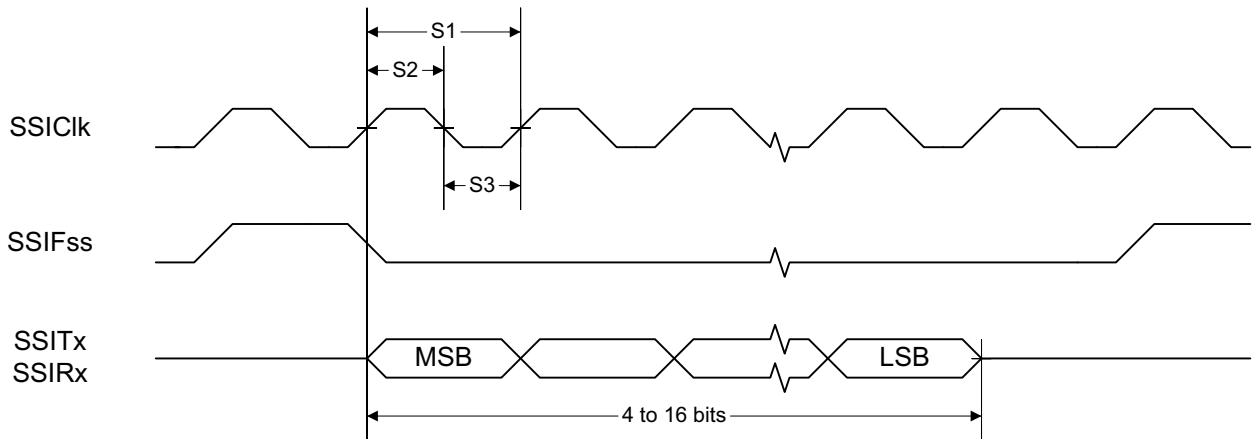
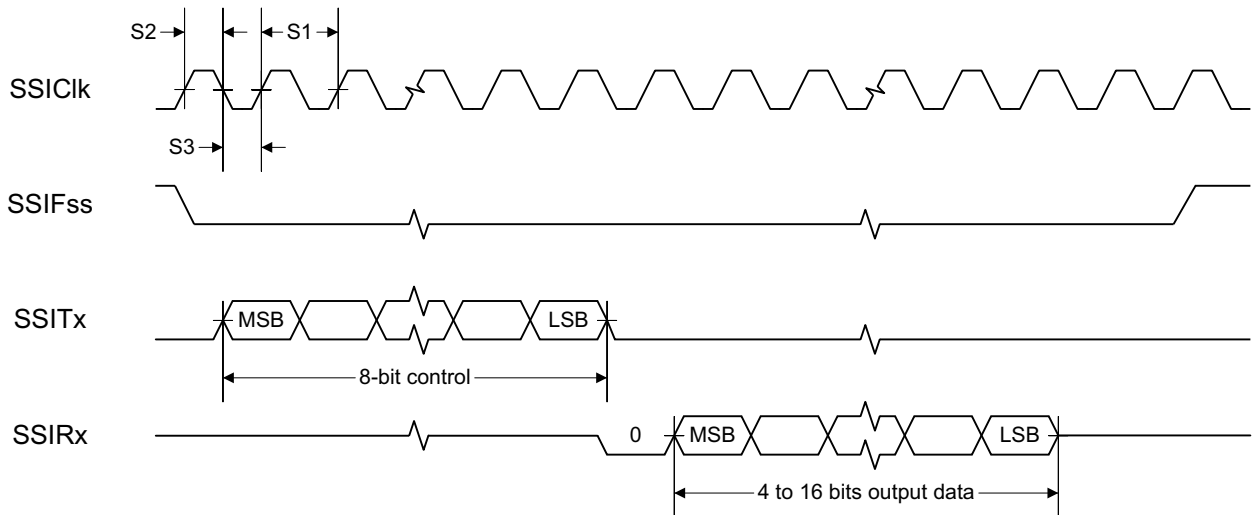
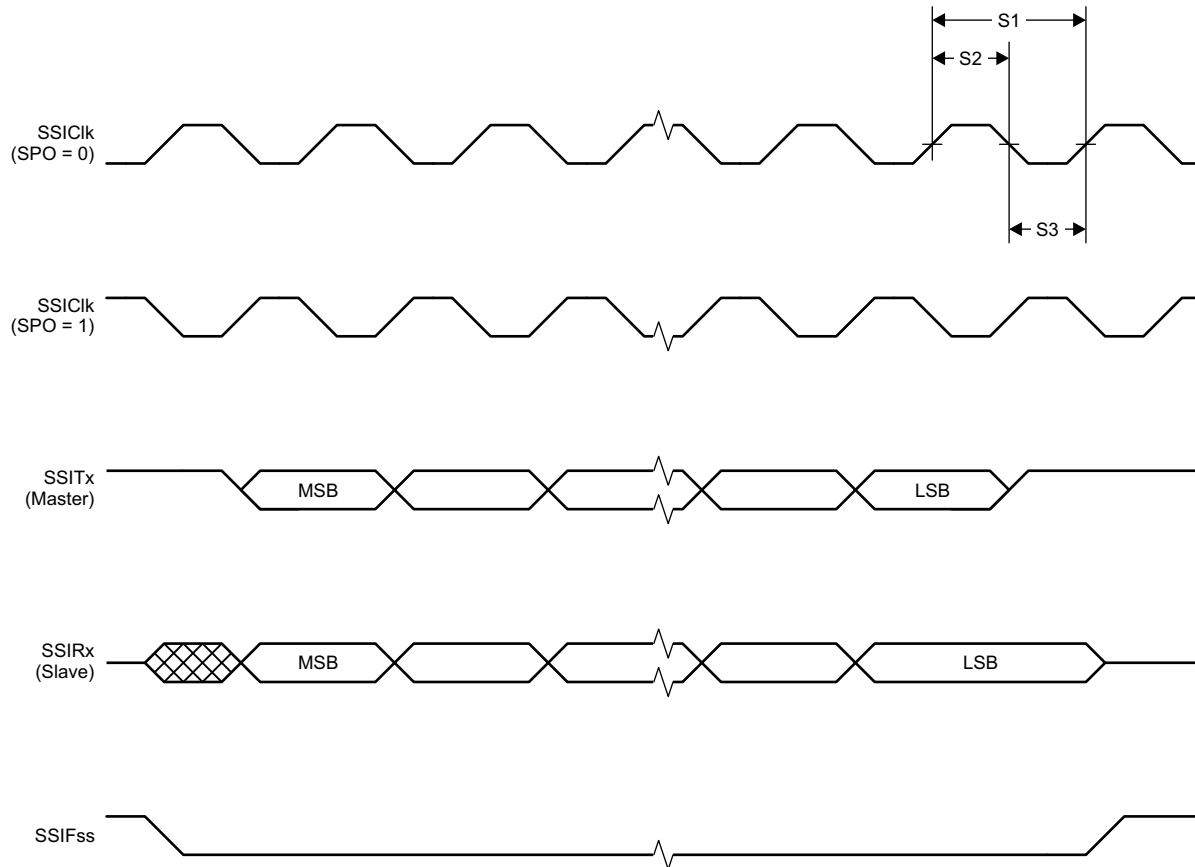

Figure 5-1. SSI Timing for TI Frame Format (FRF = 01), Single Transfer Timing Measurement
Figure 5-2. SSI Timing for MICROWIRE Frame Format (FRF = 10), Single Transfer
Figure 5-3. SSI Timing for SPI Frame Format (FRF = 00), With SPH = 1
(1) For smaller coin cell batteries, with high worst-case end-of-life equivalent source resistance, a 22-μF V_{DD} input capacitor (see Section 7.1.1) must be used to ensure compliance with this slew rate.
(2) Applications using RCOSC_LF as sleep timer must also consider the drift in frequency caused by a change in temperature (see Section 5.14).
(3) T_A = -40°C to +85°C, V_{DD} = 1.7 V to 3.8 V, unless otherwise noted.
(4) T_c = 25°C, V_{DD} = 3.0 V, unless otherwise noted. Device operating as slave. For SSI master operation, see Section 5.24.
(5) Refer to the SSI timing diagrams Figure 5-1, Figure 5-2, and Figure 5-3.
- (1) Device operating as master. For SSI slave operation, see Section 5.23.
- (2) Refer to SSI timing diagrams Figure 5-1, Figure 5-2, and Figure 5-3.